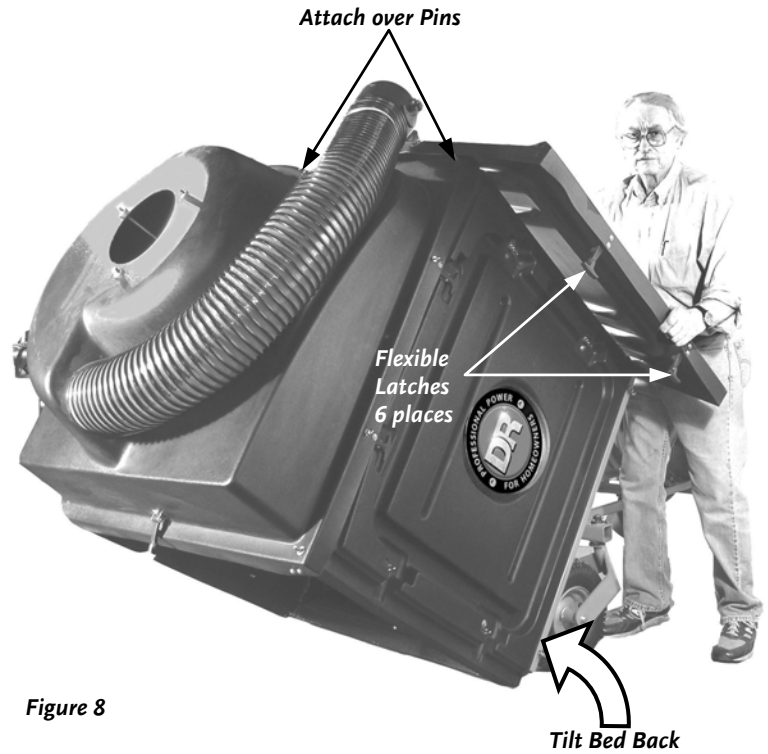

Figure 8
- Attach the Front Enclosure Panel on the protruding support Pins and fasten the sides, top and bottom using the six (6) Flexible Latches (**Figure 8**). Note the difference between the Front and Rear Panels. The Rear Panel has the metal edge supports. The mounting holes are located on top of the Panels.
**Tip:** For ease of attaching the Front Cover, release the Dump Latch and tilt the Body back. Set the Front Panel over the protruding Pins, one side at a time, making certain that the six (6) Flexible Latches are on the outside of the Panels (**Figure 8**).